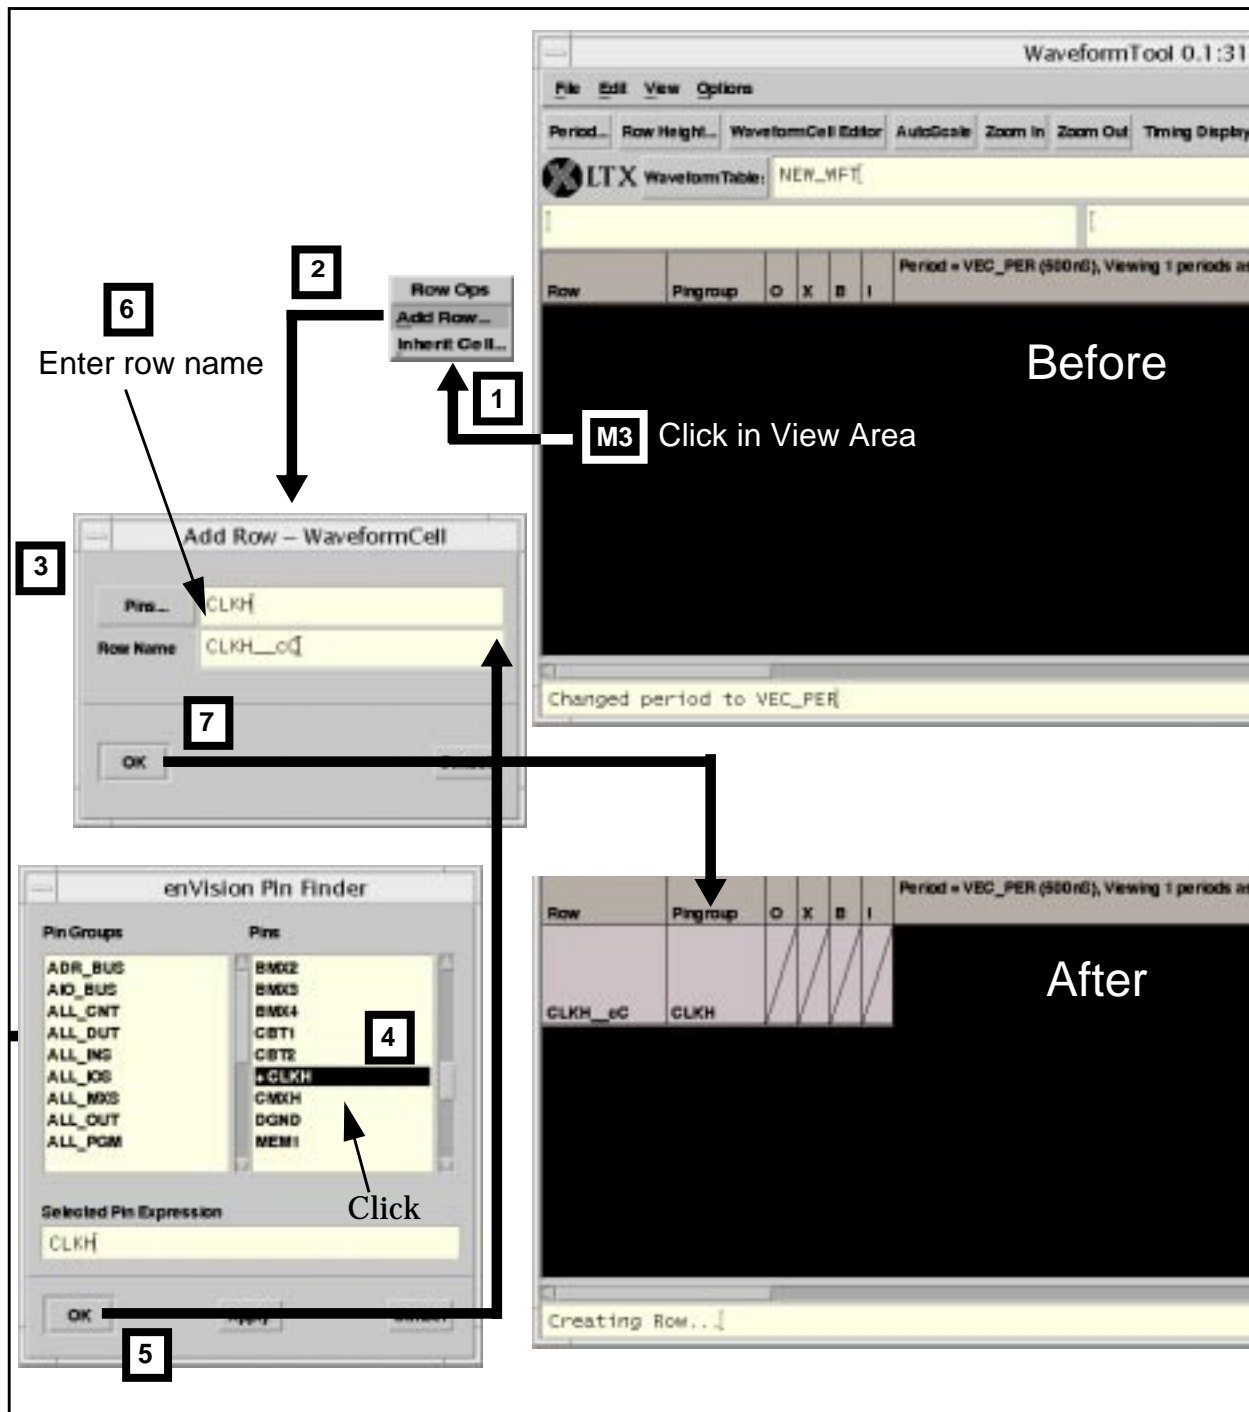

Figure 2.30: Creating a Partial Row or Cell
1. In the blank view area below the Row heading, click mouse button 3 (M3) to open the Row Ops menu; Figure 2.30.